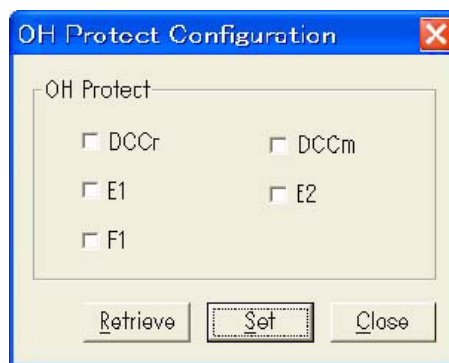

Fig. 4-4-27 OH Protect Configuration Dialog Box
- 2 From the main menu on the ADM Management Tool, select **OH Protect Configuration** from the **Configuration** menu. The **OH Protect Configuration** dialog box shown in *Fig. 4-4-27* appears: